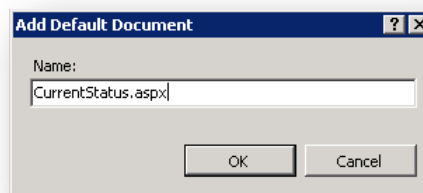

Figure 89 – Add Default Document
11. In the left pane of the IIS Manager window, click the right arrow next to “Default Web Site”. You should see the AreaMonitor application under the default web site. See Figure 89.